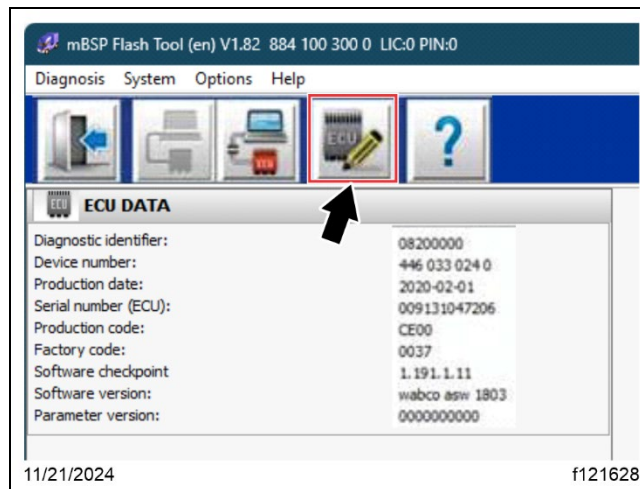

Fig. 51, Beginning the ECU Update
14. Select the 'ECU software update' button to begin the ECU update. See Fig. 51.